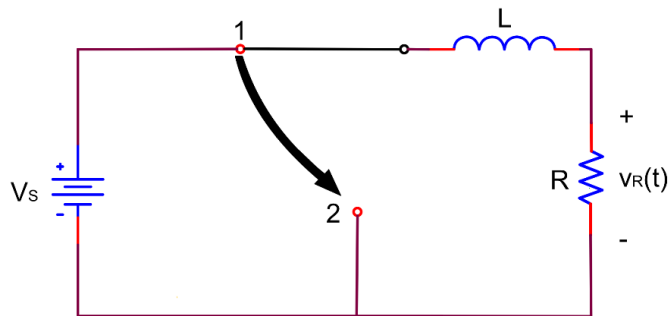

Figure 10.6
4. Assume the actual inductor in Figure 10.6 has a dc resistance, R_{dc} and an inductance, L . Calculate and sketch, $V_R(t)$, the voltage across the resistor.